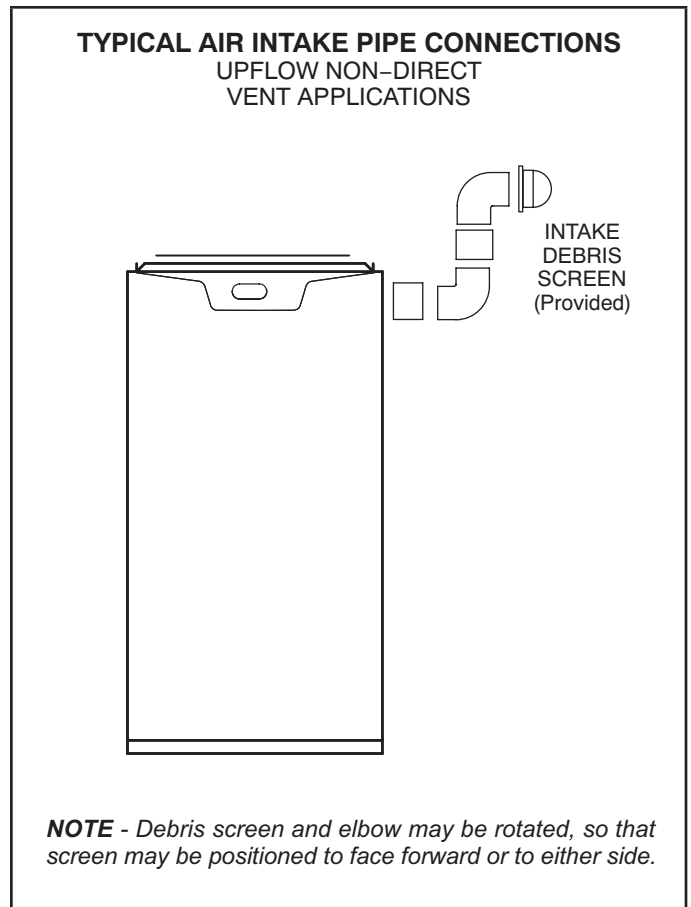
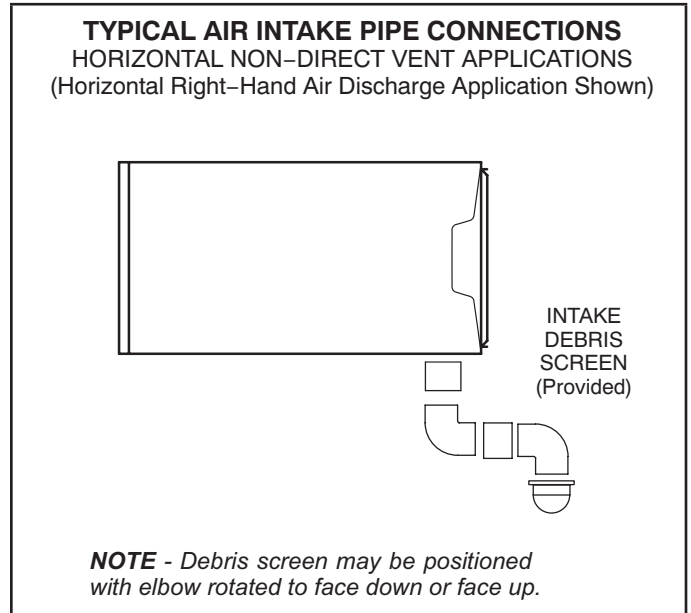

FIGURE 29
FIGURE 30
- 1 - Use field-provided materials and the factory-provided air intake screen to route the intake piping as shown in FIGURE 29 or FIGURE 30. Maintain a minimum clearance of 3" (76mm) around the air intake opening. The air intake opening (with the protective screen) should always be directed forward or to either side in the upflow position, and either straight out or downward in the horizontal position. The air intake piping must not terminate too close to the flooring or a platform. Ensure that the intake air inlet will not be obstructed by loose insulation or other items that may clog the debris screen.